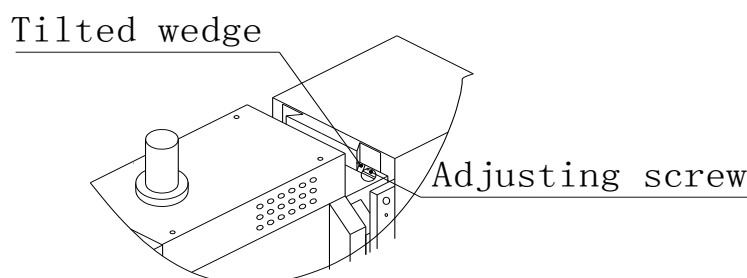

Figure 4-1
- Insert the head of the column with the adjustment, as shown in Figure 4-1